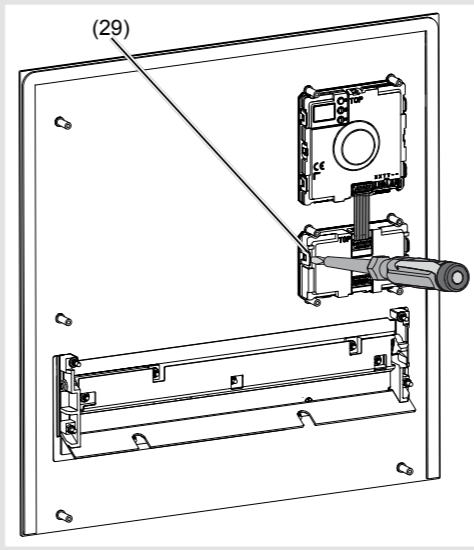

Figure 19: Unlatching the call push-button module insert
(27) Screws
(28) Module mounting
- To remove the call push-button module, unlatch the side retaining brackets (29) of the module mounting by carefully lifting up with a screwdriver (Figure 19).